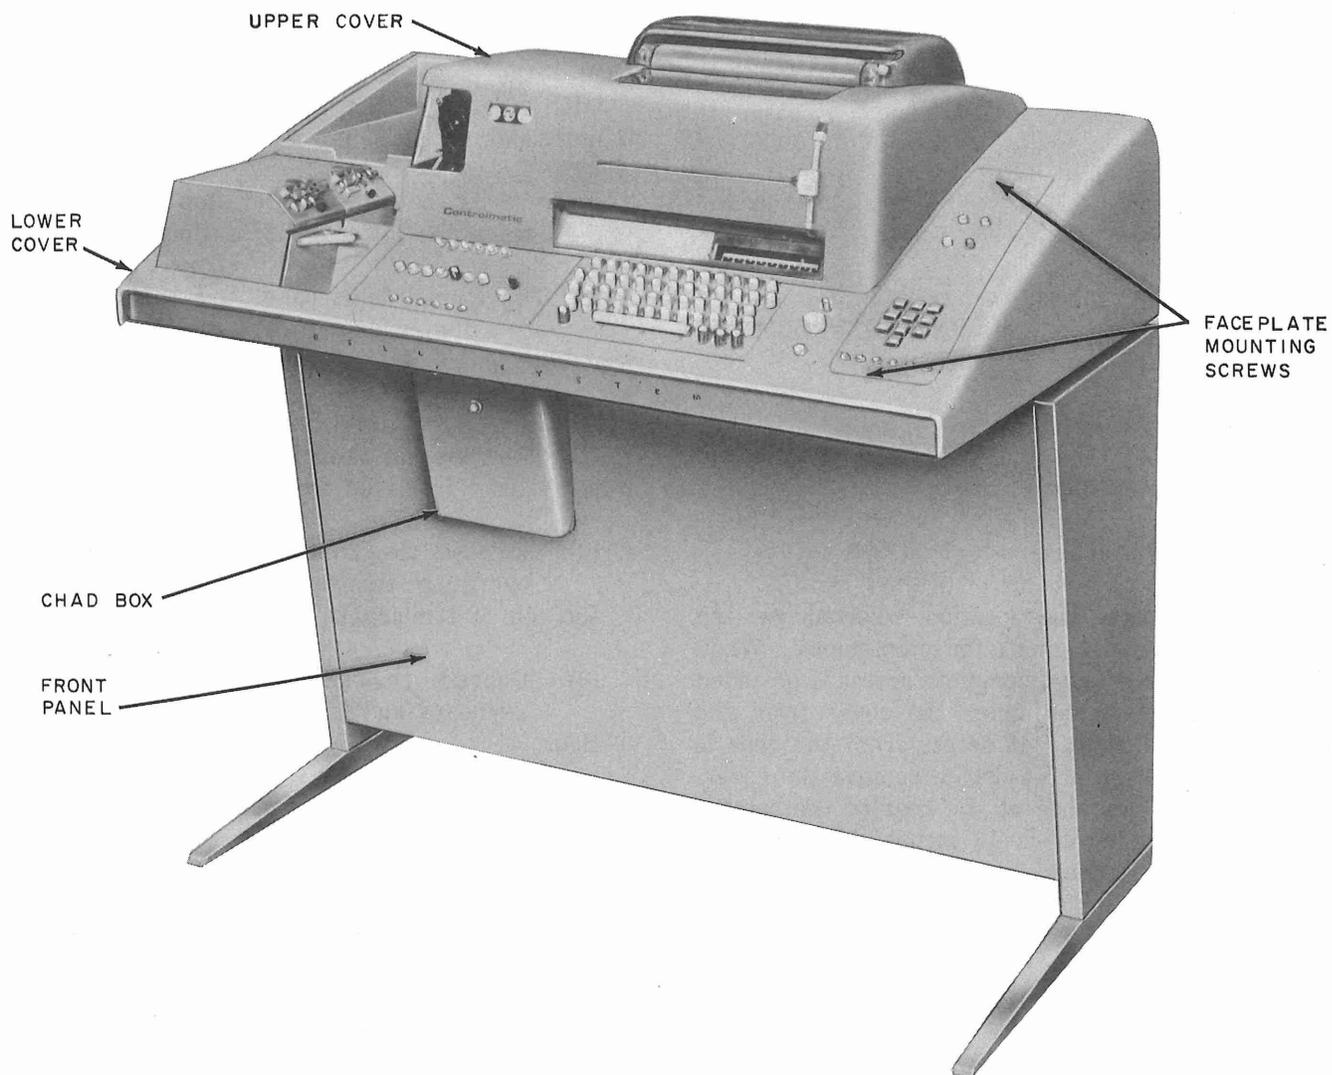

Fig. 1—CONTROLMATIC Data Station Arranged for TWX Service
1.02 The CONTROLMATIC is a self-contained station which is normally furnished completely assembled by the distributing house. See Fig. 1.